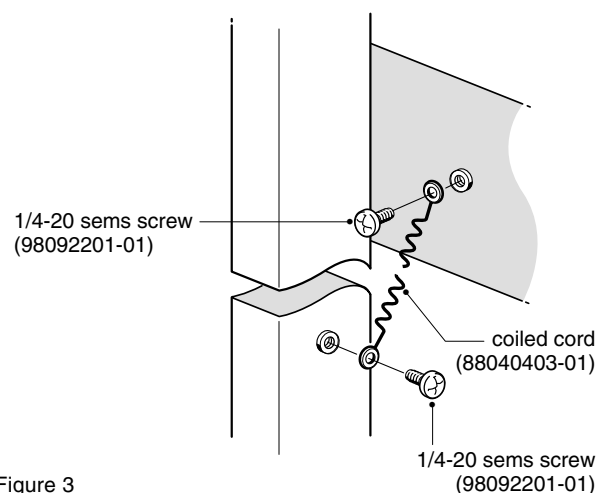

Figure 3
1. Using the 1/4-20 sems screws provided, attach one end of the coiled cord to threaded insert located on the back top side of the case. After installing drawer case to the surface, attach other end of coiled cord to a selected ESD ground path means. (Figure 3)